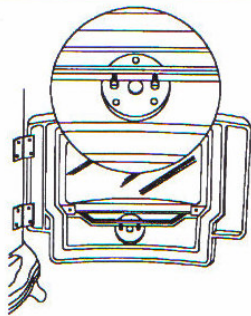

Fig.32
14. With the spin valve locking screws loosened, close the spin valve to its limit. (see fig. 32)
16. Once the stove has stabilised at setting 6 (i.e. yellow LED light has gone out), open the spin valve until an acceptable flame pattern is achieved. Flames should be mainly blue with some yellow tips and should mainly emanate from the front and sides of the burner. Once a satisfactory flame pattern is achieved, lock the spin valve using the locking screws on the inside of the front door. (see fig.32).
6. Fit the cast iron front fire bar in its retainers as shown in fig.32